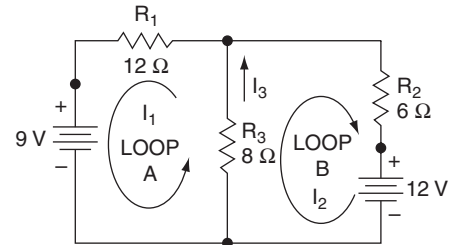

FIGURE 5–9
In the circuit of Figure 5–4, reverse the polarity of the 8 volt battery in the center, making it negative at the top and positive at the bottom.
1. With reference to Figure 5–9, develop a formula for I_3 as related to I_1 and I_2 .
2. With reference to Figure 5–9, develop a formula for the voltages around loop A starting at the plus terminal of the 9-volt battery.
3. With reference to Figure 5–9, develop a formula for the voltages around loop B starting at the plus terminal of the battery.
4. Using the formulas developed in questions 1, 2, and 3 and Kirchhoff's Voltage Law, determine the voltage across R_1 , R_2 , and R_3 in Figure 5–9.